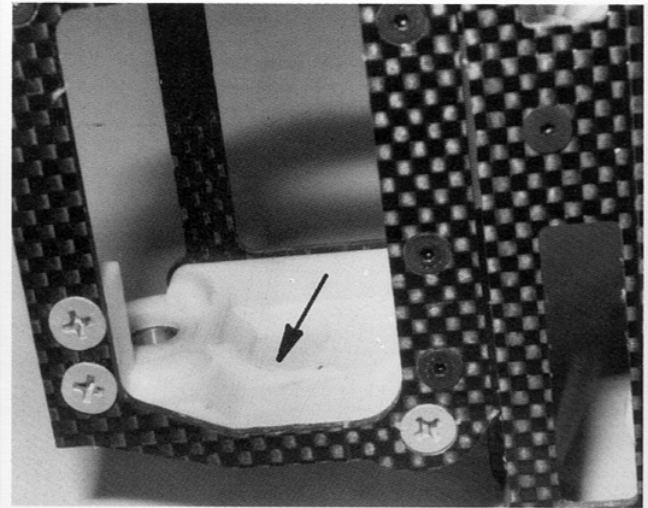
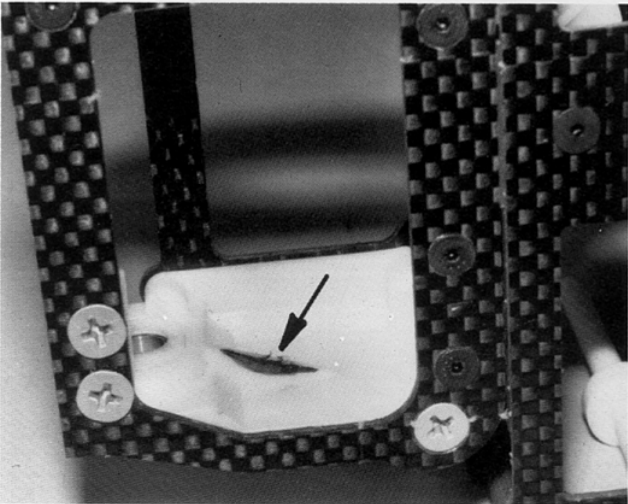

Fig. 51
Fig. 50
□ **Figs. 50 & 51**—We'll need to trim some of the plastic away on the left hand bulkhead where shown in Fig. 50. Use an Exacto knife and trim it approximately 1/8" off, as shown. It should now look like Fig. 51. This will allow us to install the motor much easier.